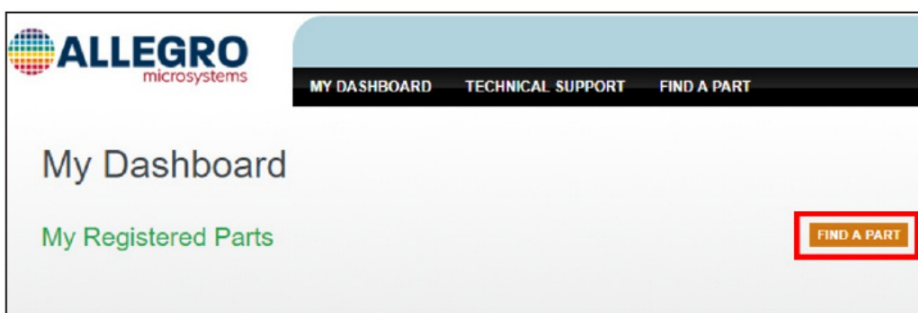

Figure 3: “Find a Part” button allowing the user to register specific devices
3. After registering and logging in to the software portal, the dashboard page will be shown. Choose the “Find a Part” button highlighted in Figure 3.